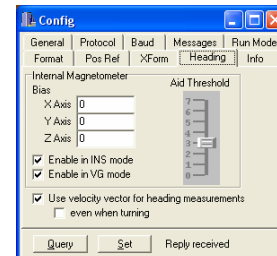

Figure 9. Heading tab
10. **Select "Options" from the Menu Bar then Select "MIDG Config"** (Figure 9).